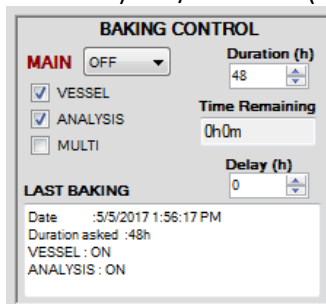

Figure 452: bottom left part of the Vacuum synoptic
- In the vacuum synoptic window, in the baking options, check ANALYSIS (analysis chamber + central column) and/or VESSEL (vessel chamber) and/or MULTI (multicollection) accordingly (Figure 452):